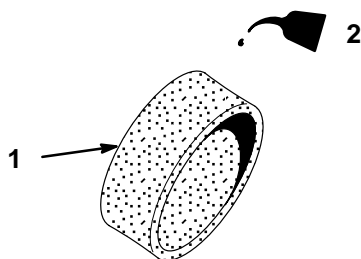

Figure 28
3. Saturate the element with clean engine oil (Fig. 28), squeeze out the excess oil, the wrap it in a clean rag and squeeze it as dry as possible. Be careful not to tear the element.